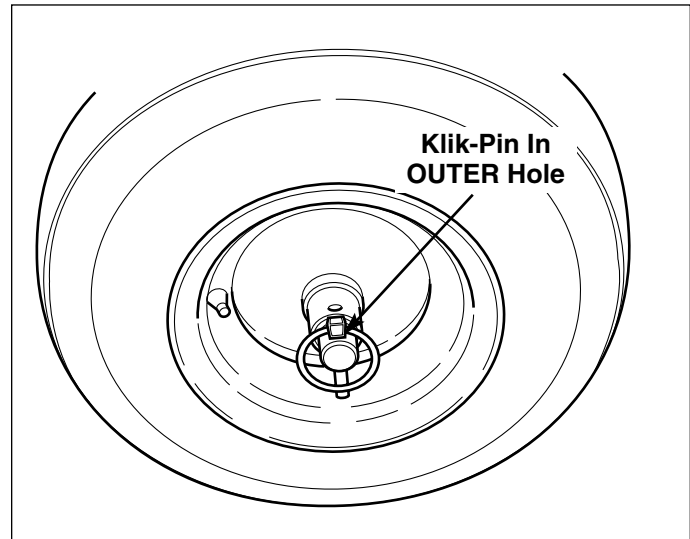

Figure 9. Traction Drive Lock - Disengaged
For easy turning when pushing the snowthrower, you can disengage the traction drive at one or both wheels by using the traction lock pins (See Figures 9 & 10).
2. To **DISENGAGE** the traction drive lock, insert the traction lock pin through the outer hole in the axle. (See Figure 9).